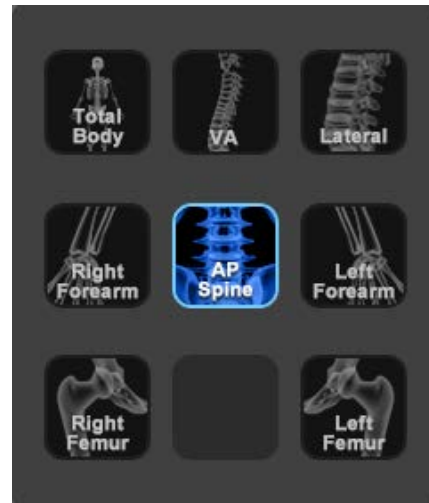

Figure 2 Selected
- Figure 2 : Position is set to the spine.